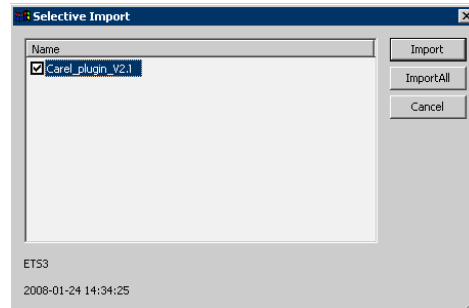

Fig. 7.b
- import Carel_plugin_21.pr4 using File → Import, see Fig.7.b
- Press “Import all”, Fig.7.b.